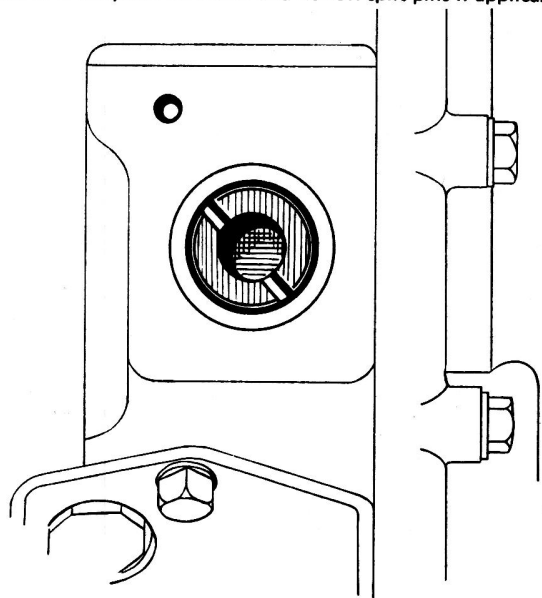

Fig.1.39. Position of the distributor drive offset when No.6 piston is at T.D.C.
- 1 Fit the distributor drive shaft to the bush on the front face of the cylinder block with the offset slot in the top of the shaft positioned as shown in Fig.1.39.
- 1 Check that No.6 (front) piston is at TDC and check that the distributor drive shaft is in the position shown in Fig.1.39. It may be 180° out in which case rotate the engine through a complete revolution to again bring No.6 piston to TDC. Again check the position of the slot.